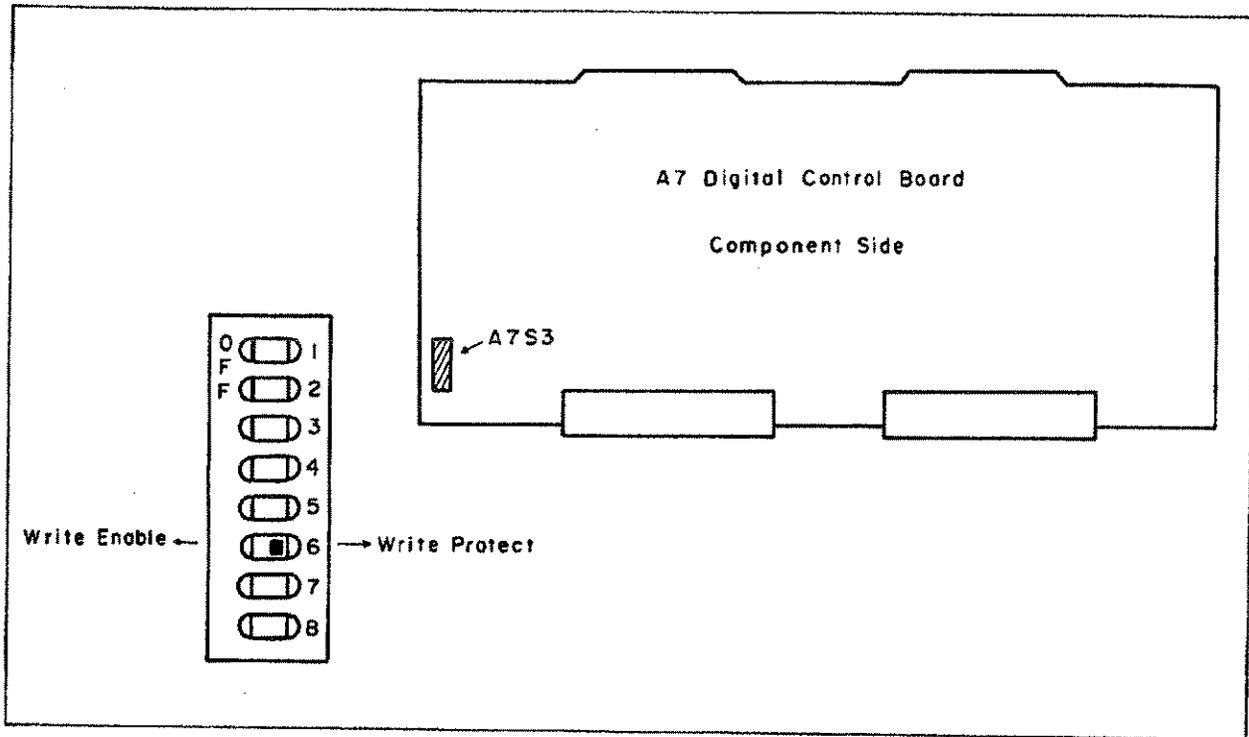

Figure 3-9. Write Protect Switch
- Set A7S3-6 to the right-most position (ON) to disable the 4278A's STORE function (to write-protect memory cards). Set A7S3-6 to the left-most position (OFF) to enable storing. Refer to Figure 3-9.